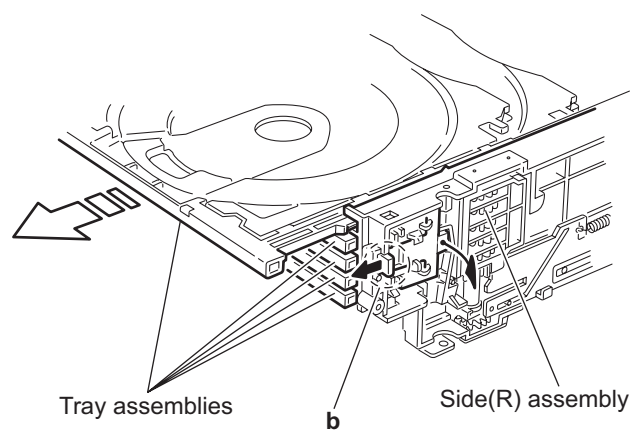

Fig.4
- (4) From the right side of the DVD changer mechanism assembly, draw out the tray assemblies toward the front while pushing the part **b** of the side (R) assembly. (See Figs.4 and 5.)